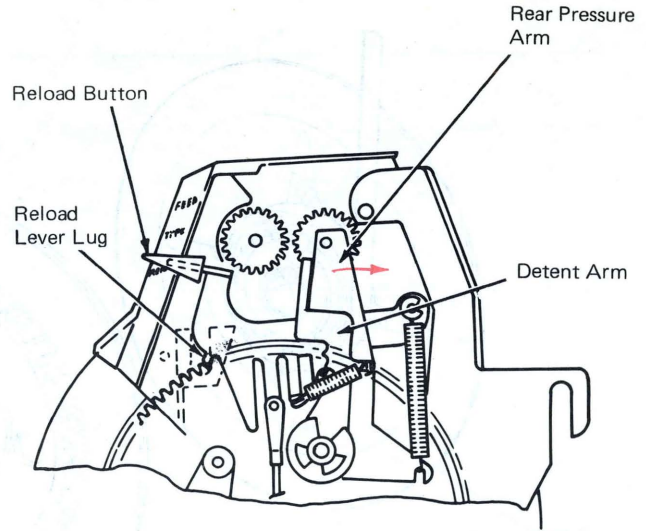

Figure 10 – Remove Mode (Right Side View Level 2 And 3)
2. *Remove Position* – When the reload lever is depressed to the “REMOVE” position, the feed rollers separate and the take-up spool rotation is interrupted, allowing the typist to change the ribbon. The rear detent and pressure arms disengage the feed rollers. A lug on the reload lever interrupts the rotation of the takeup spool assembly (Figure 10). The rear detent gear and pressure arms will hold the reload lever in this position until the ribbon feed cam is operated or the reload lever is lifted from the “REMOVE” position.